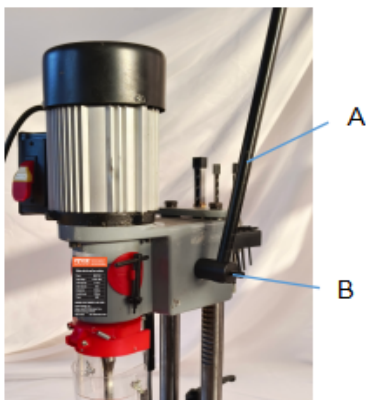

Fig. 2
1. Assemble hub of handle assembly (A) Fig. 2, to gear shaft (B) and secure the handle to gear shaft using screw.